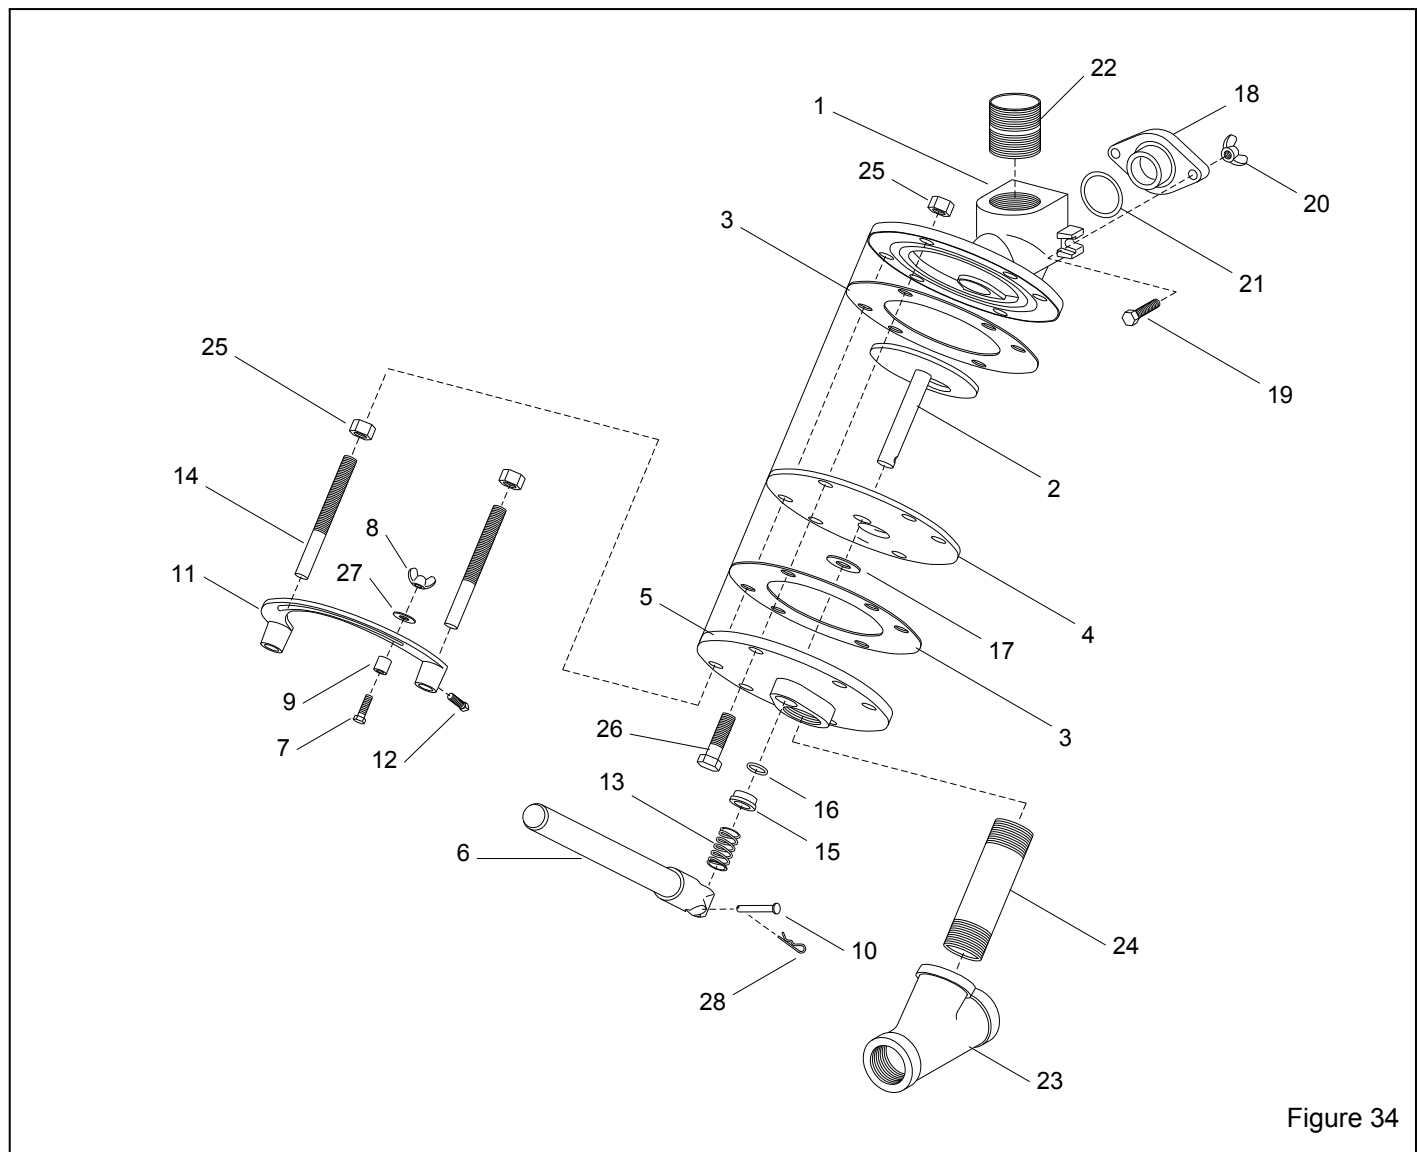

Figure 34
9.8 FSV Media Metering Valve, Figure 34